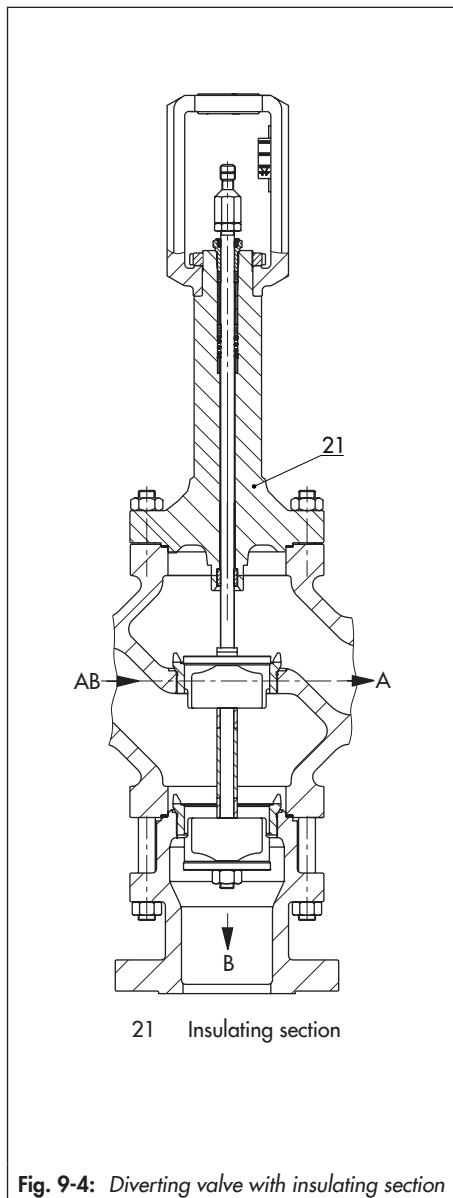

Fig. 9-4: Diverting valve with insulating section
- Proceed as described in section 9.4.1. The insulating section (21) is installed instead of the bonnet (2). See Fig. 9-4.